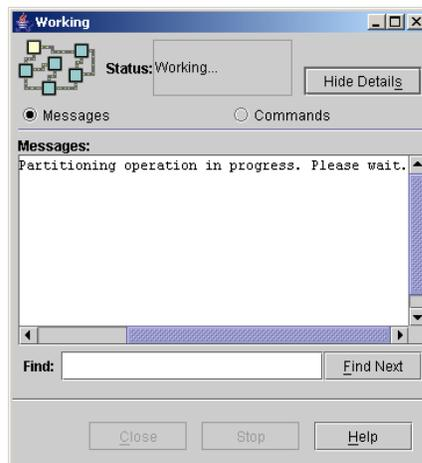

Figure 5-14 Status window
2. Click **OK** when done. A status window is shown (Figure 5-14).